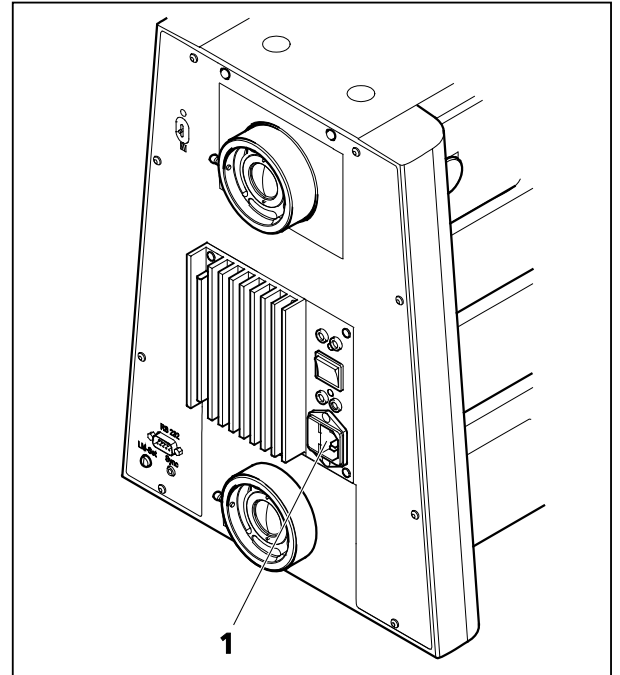

Fig. 41 Overall view of Axiio Imager 2 - coded
- Plug the power cable first into the power socket (Fig. 41/1) of the microscope and then into a power outlet. The microscope can be connected to a line voltage of 100 V to 127 V or 200 VAC to 240 VAC, 50 Hz – 60 Hz. The power unit **automatically** adapts to the line voltage available.